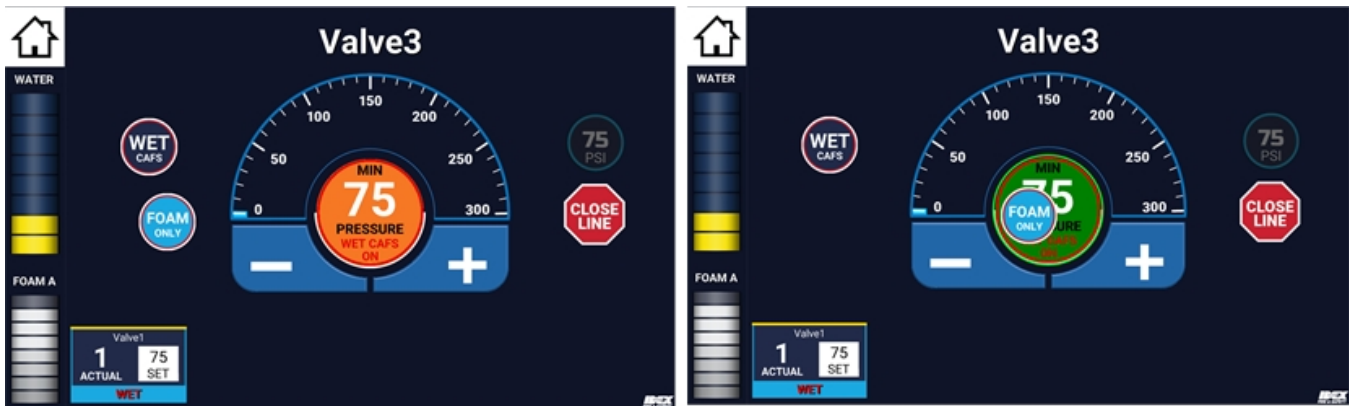

Figure 18. Activate FOAM ONLY Bubble
See Figure 18.
- B. On Valve X screen (discharge valve control screen), swipe FOAM ONLY bubble to target (center of gauge). (See Figure 18, page 11.)